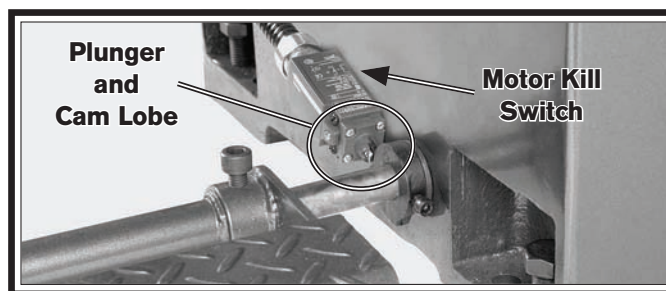

Figure 141. Motor kill switch.
10. Locate the motor kill switch (shown in **Figure 141**) at the tailstock end of the lathe.